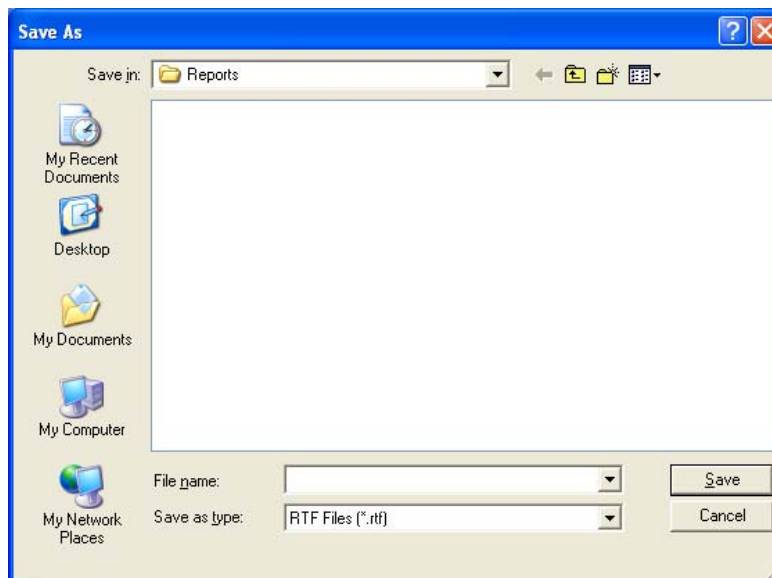

Figure 11-25
4. To save the report displayed on the screen, click the **Save to File** button or press *Alt+S*. The Save As box appears as shown in Figure 11-25. Reports are saved as a rich text format file (.rtf file) in the Captus3000\_2\Reports\ folder by default. They can be opened in WordPad or MS Word.